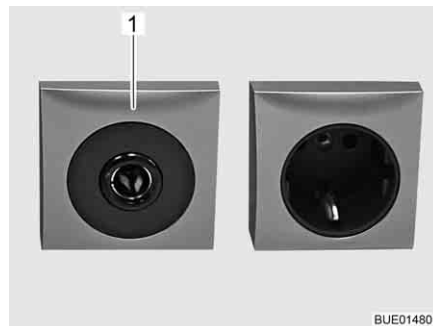

Fig. 147 12 V/10 A socket
- ▷ Only connect devices with a maximum of 10 A to the sockets (Fig. 147,1) of the 12 V power supply.